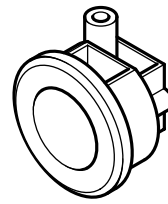

Fig. 31
4. Slacken the cable clamp on the LH side of the boiler chassis (Fig. 31). Insert the cable through the clamp and route it to the terminal block.